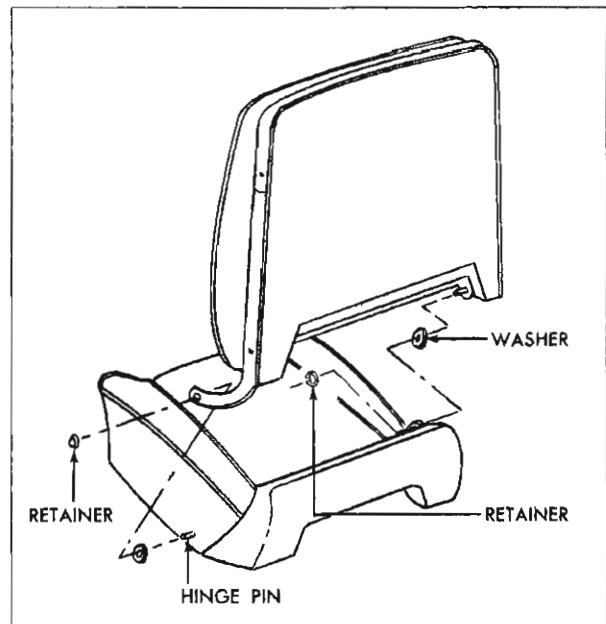

Fig. 98—Bucket Seat Removal
- remove retainer from outer hinge pin (fig. 98).
2. On all styles, tilt seat back forward and remove retainer from inner hinge pin (fig. 98).
5. To install, reverse removal procedure. Prior to installation of back assembly, be sure inner and outer washers are installed over the hinge pins. (fig. 98).